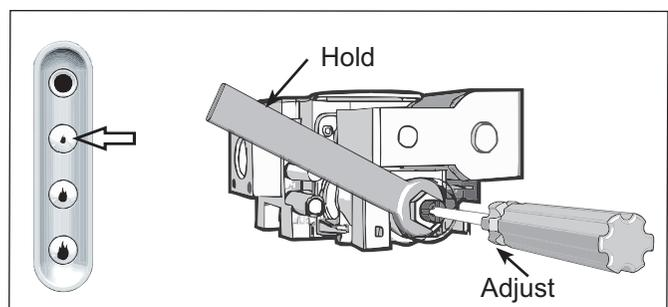

FIG 21
- Switch the control buttons to 'Low Flame' position. Retain spanner in position and using a screwdriver adjust the central screw control to give a low pressure reading (refer to spec table on page 8). **(Turn clockwise to increase pressure and anticlockwise to decrease pressure)**. Refer **FIG 21**.